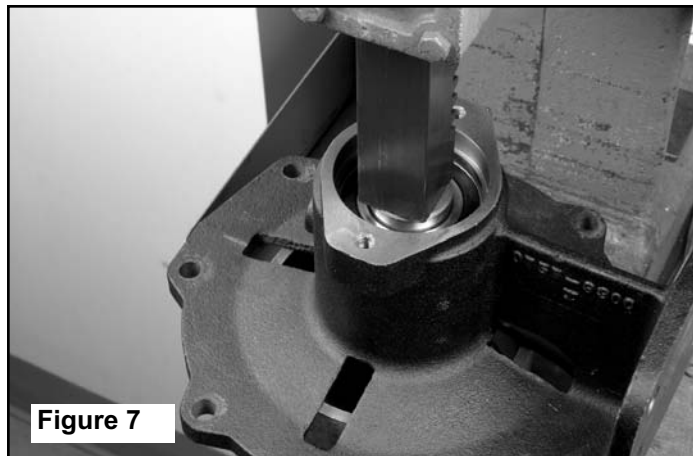

Figure 7
3. Set the mounting flange shaft side down in a press to remove the bearing and shaft assembly (See Figure 7).